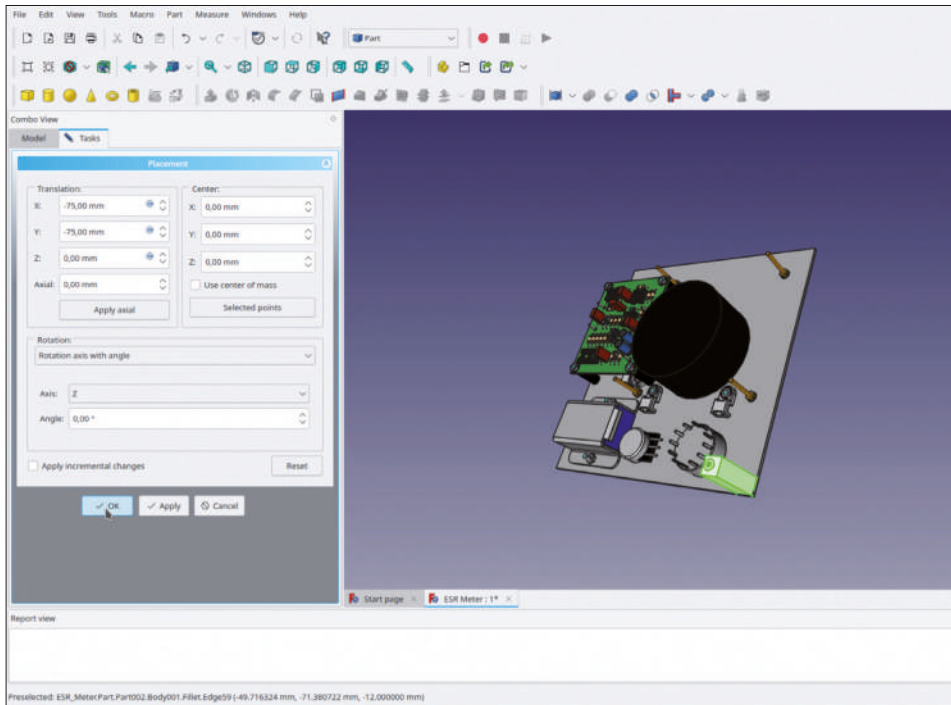

Figure 7-69
17. In the tree view, mark 'Spacer Casing Complete 1'. In the property list, edit the placement parameters and enter the translations: X = -75 mm, Y = -75 mm (Figure 7-69).